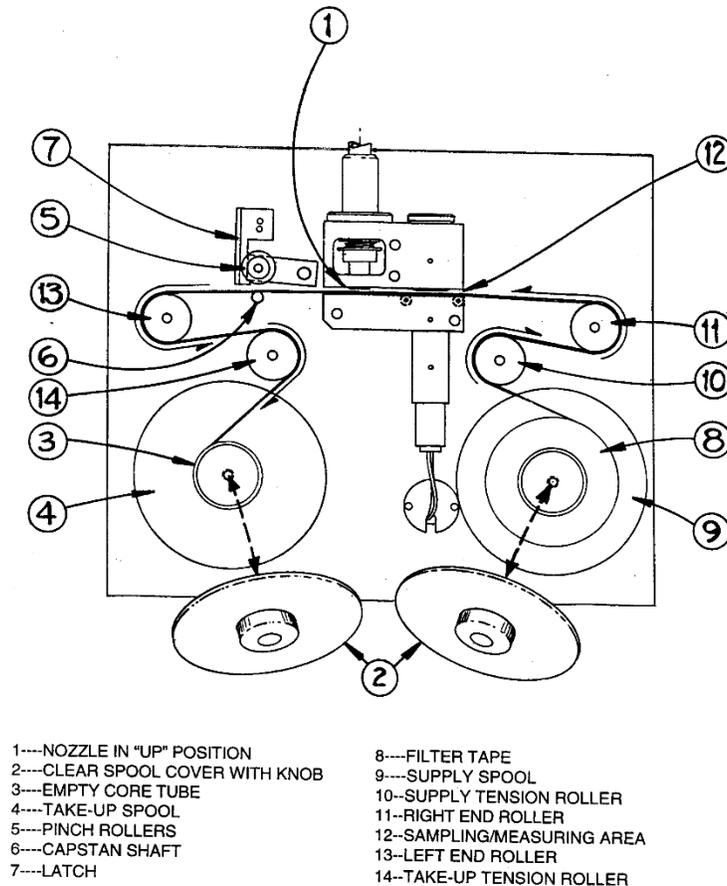

Figure 5 Filter Tape Loading Diagram
4. Lift the "pinch" roller (See Figure 5) until the latch automatically locks it in the up position. Carefully slide the filter tape out of position. This may require unwinding a very small amount of filter tape from the roll to provide some slack in the tape without causing damage to the tape;
11. Carefully place the filter tape back into position under the nozzle, advance the filter tape approximately six (6) inches to provide a clean filter spot and rewind the filter tape to remove any slack. (Refer to Section 2.37.2.2.6 regarding filter tape replacement procedures);
A roll of filter tape must be loaded into the BAM-1020 for sampling. One roll of tape should last approximately two (2) months under normal operation. It is important to have several spare rolls of tape available to avoid data interruptions. It is the responsibility of the site operator to have at least one spare roll on hand. The tape should be changed when it approaches the end of the roll based on visual inspection during each site visit by the site operator. Additional rolls of filter tape can be obtained by contacting the ECB or the Central Office. **The used rolls of tape will be saved for potential post-sampling analysis. At the time of removal, the operator will write the date/ time directly on the filter tape after the last sampled spot. Place the tape in the plastic container bag and the box, record the site name, date and time on the filter box and return it the Projects and Procedures Branch in the Central Office for archiving.** The used filter tape should never be “flipped over” or re-used! This will result in measurement problems. Loading a roll of filter tape is a simple matter using the following steps and referring to Figure 5 below:
2. Lift the rubber pinch roller assembly and latch it in the UP position (see Numbers 5 and 7 in Figure 5). Unscrew and remove the two clear plastic spool covers.
4. Load the new roll of filter tape onto the **right** (supply) reel, and route the tape through the transport assembly as shown in Figure 5 below. Attach the loose end of the filter tape to the empty core tube with cellophane tape or equivalent.